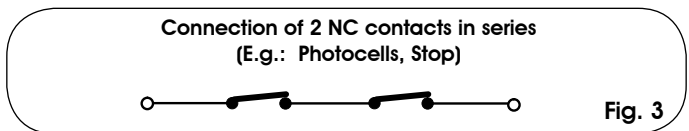

Fig. 3
**!** If two or more safety devices (NC contacts) have to be connected, put them in series with each other (see fig.3).
*To install several closing safety devices, connect the N.C. contacts in series (fig. 3).*
*To install several STOP devices, connect the N.C. contacts in series (fig. 3).*